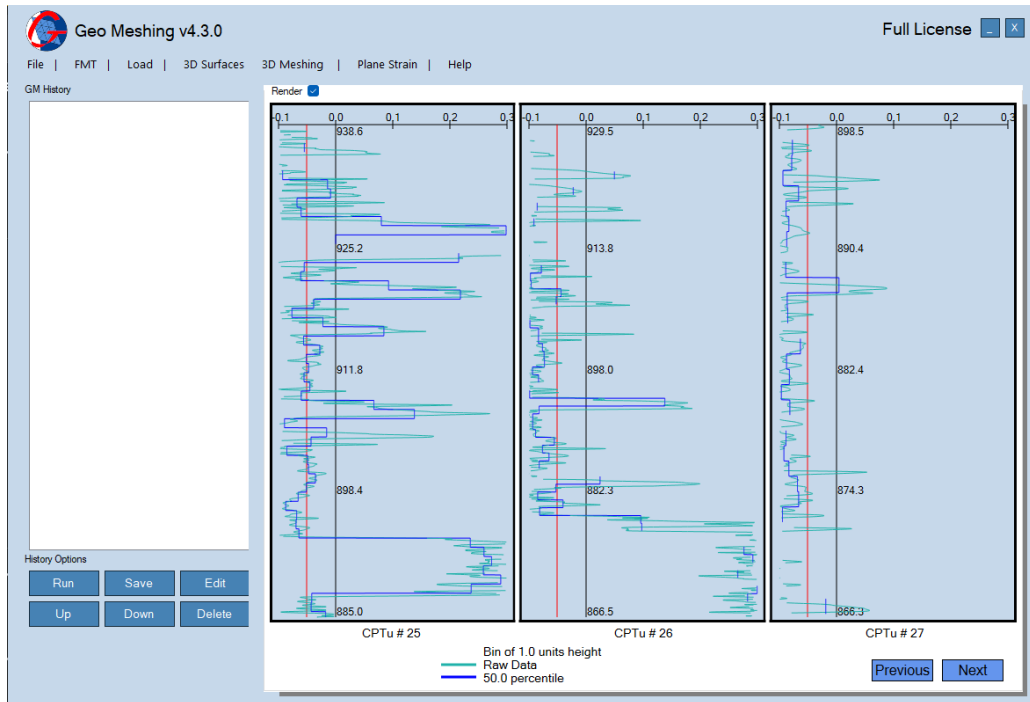

Figure 14: State Parameter Statistical Analysis.
- **Show Data:** Shows the CPTu data and statistical analysis as shown in Figure 14 (only available when Statistical Analysis is selected).